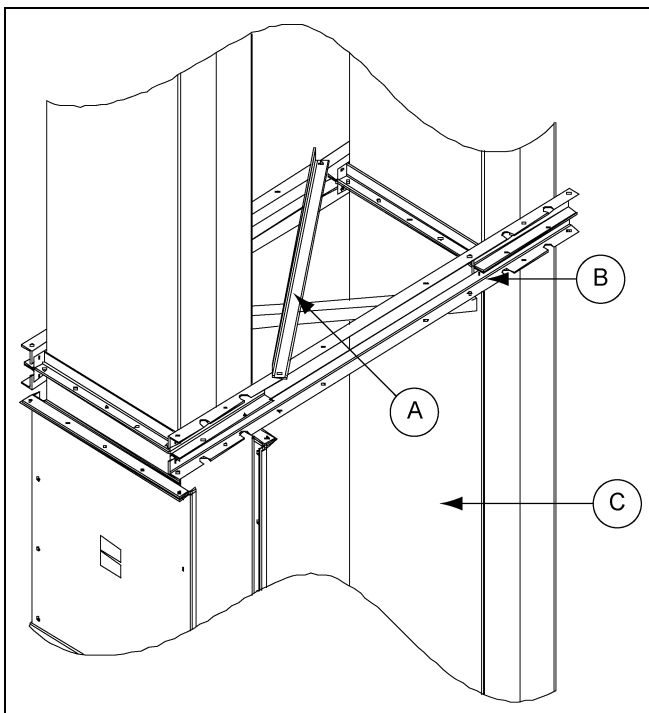

Figure 7D Trunking Joint
2. Attach tie angle to single trunking as shown in Figure 7D. (If 42" diameter or larger install cross tie angle.)
**NOTE:** Do NOT assemble more than thirty (30) linear feet at any time.